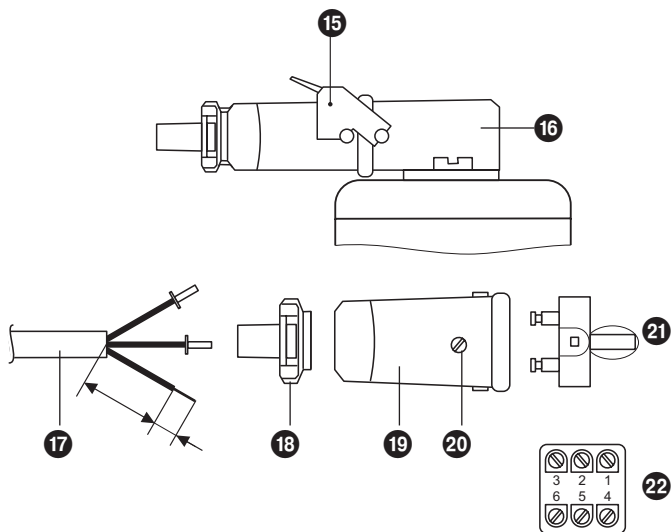

Fig. 4
1. Turn up the retaining bracket **15** and detach the upper part of the connector **19** from the level electrode. **Fig. 4**